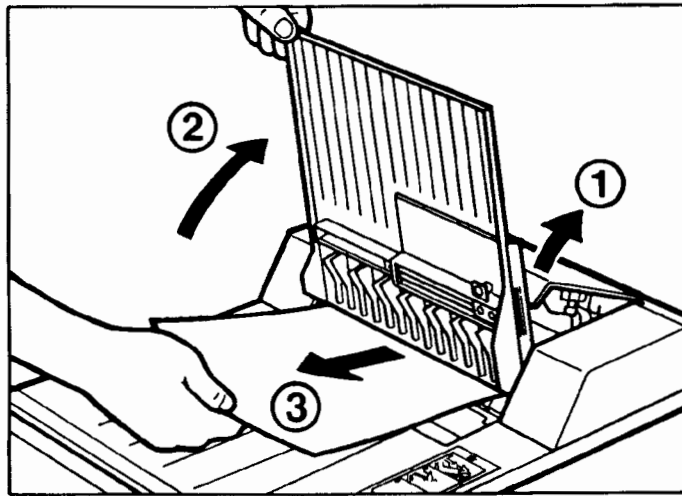

Figure D-10. Removing a Paper Jam at the End of Scanning
- If the jam occurs at the end of scanning, raise the ADF cover and lift up the document tray. Remove the jammed paper. Close the document tray and the cover securely. See figure D-10.